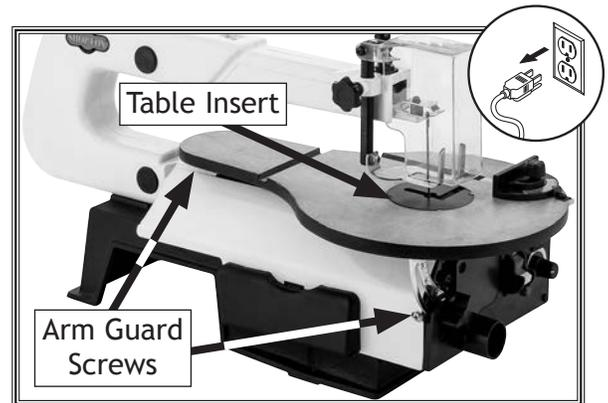

Figure 27. Table insert and arm guard.
4. Remove table insert, then use Phillips head screwdriver to remove screws from lower arm guard shown in **Figure 27**.